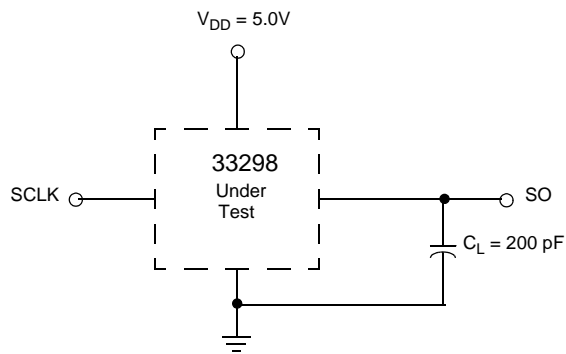

Figure 5. Valid Data Delay Time and Valid Time Test Circuit
39. Time required to obtain valid data out from SO following the rise of SCLK. See Figure 5.